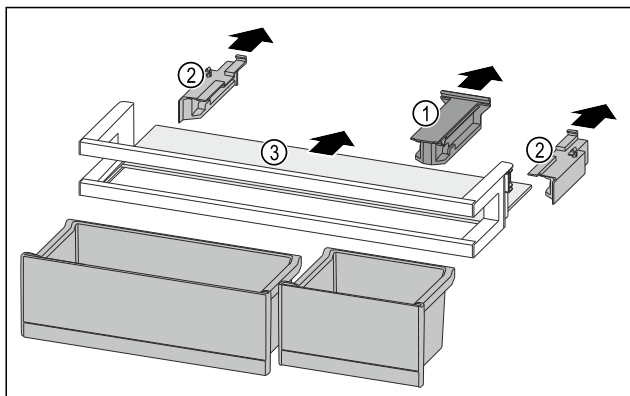

Fig. 260
- Pull off the holding part Fig. 260 (1).
- Pull off the side parts Fig. 260 (2).
- Remove the shelf Fig. 260 (3).